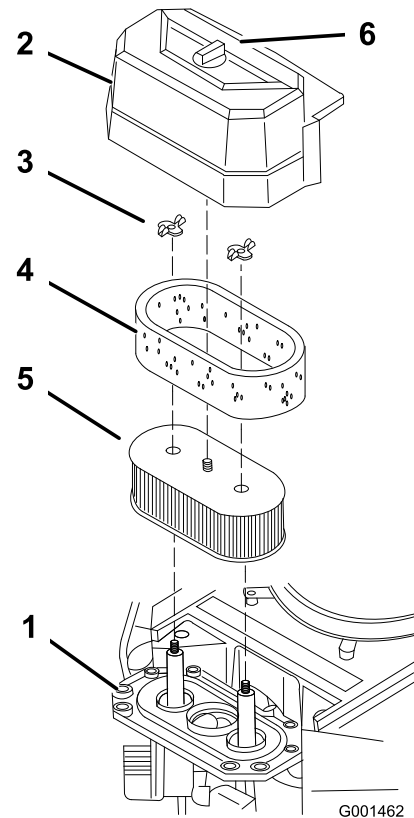

Figure 29
3. Clean around the air cleaner to prevent dirt from getting into the engine and causing damage (Figure 29).
4. Unscrew the cover knob and remove the air cleaner cover (Figure 29).
5. Remove the 2 wing nuts and remove the air cleaner assembly (Figure 29).
6. Carefully pull the foam element off the paper element (Figure 29).
1. Do not clean the paper filter, replace it.(Figure 29).
1. Carefully slide the foam element onto the paper air cleaner element (Figure 29).
2. Place the air cleaner assembly onto the air cleaner base and secure it with the 2 wing nuts (Figure 29).
3. Place the air cleaner cover into position and tighten the cover knob (Figure 29).